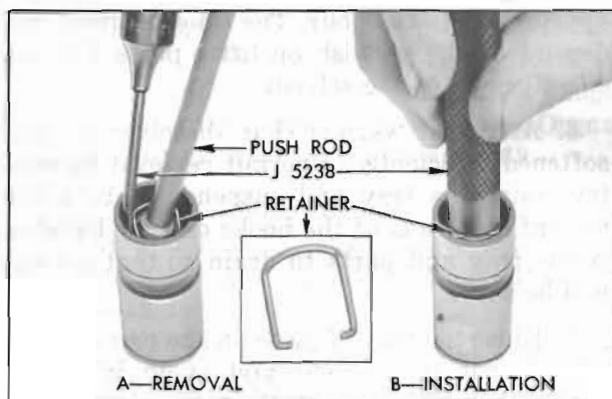

Figure 2-23—Removing and Installing Plunger Retainer
1. Disassemble each valve lifter by using a push rod to hold down the push rod seat while removing the plunger retainer from the lifter body, using Retainer Remover J 5238. See figure 2-23, View A. Remove push rod seat and plunger from lifter body.
3. Rinse push rod seat and plunger retainer, place these parts in end of body and depress with handle of Remover J 5238 until retainer engages groove in body. See figure 2-23, view B.